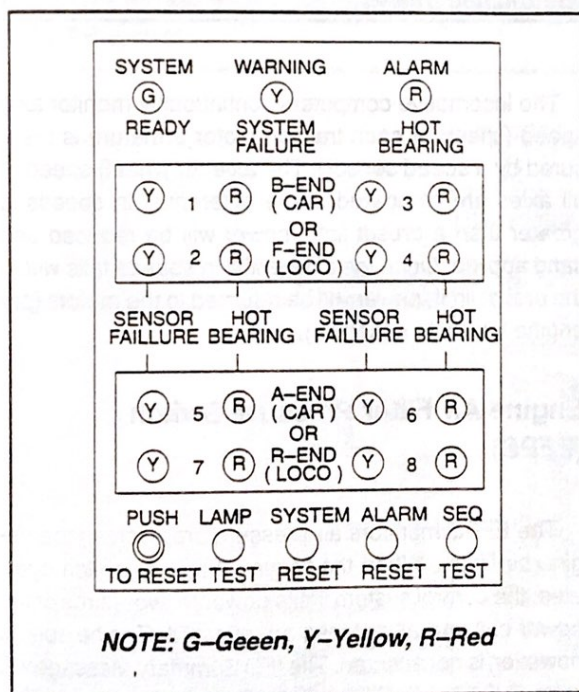

FIG. 77. HOT SUPPORT BEARING DETECTION PANEL. E-42785.
1. Hot Support Bearing Detection Panel (Fig. 77)
2. Eight (8) traction motor support bearing sensors